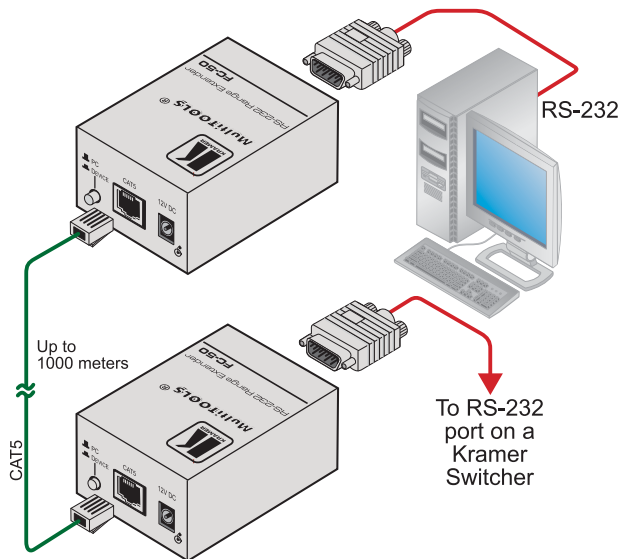

Figure 3: Connecting the FC-50 RS-232 Range Extender
| Figure 3: Connecting the FC-50 RS-232 Range Extender | 6 |
To connect two **FC-50** units, as illustrated in the example in Figure 3, do the following:
5. Connect the 12V DC power adapter to the power socket on the **FC-50** and connect the adapter to the mains electricity (not illustrated in Figure 3).